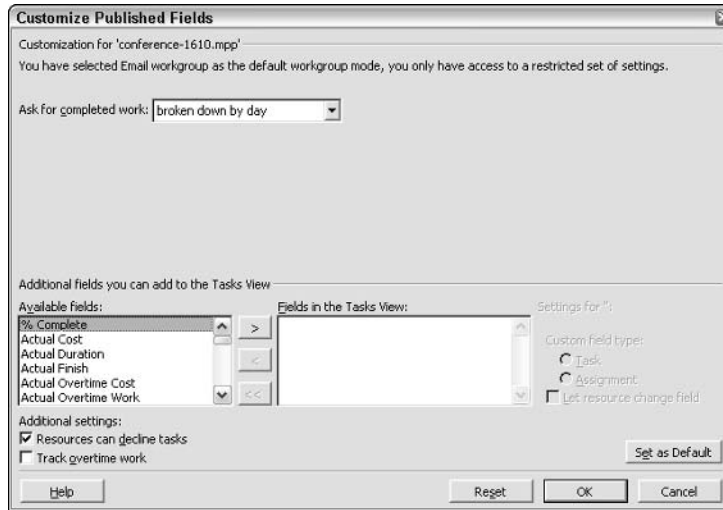

Figure 16-20: Use the Customize Published Fields dialog box to include the information that is most relevant to your project in your workgroup messages.
1. Choose Tools⇨Customize⇨Published Fields to open the Customize Published Fields dialog box, as shown in Figure 16-20.